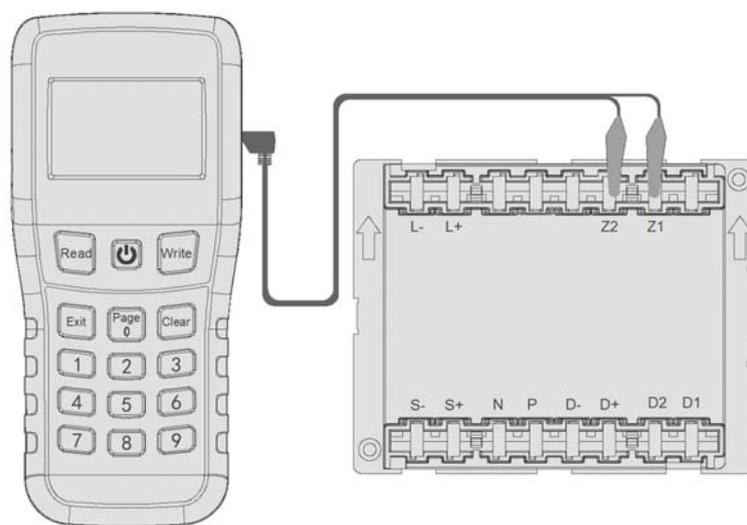

Figure 3: Programmer Connection Detail
1. Connect the programming cable to Z1 and Z2 terminals (Figure 3). Press **"Power"** to switch on the programmer.
2. Connect the programming cable to Z1 and Z2 terminals (Figure 3). Press **"Power"** to switch-on the programmer.